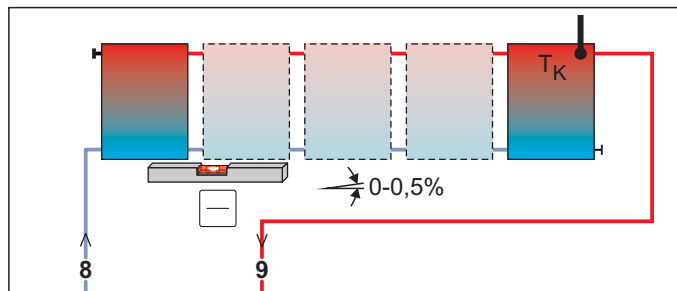
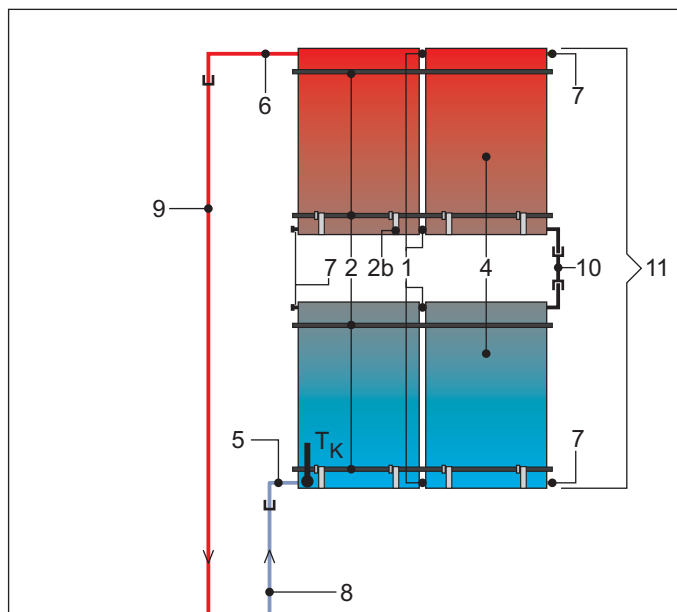
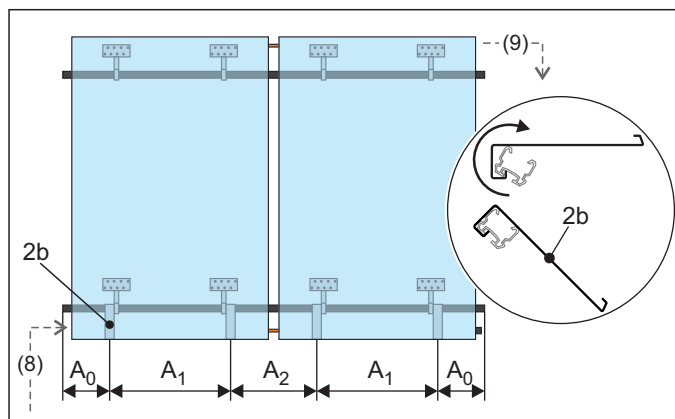

Fig. 4-1 Two-way connected solar panel array (recommended)
Fig. 4-3 Alternative solar panel arrangement
Fig. 4-5 Step 1: Alignment of the securing clips
As an alternative to the parallel circuits of the solar panels described in these instructions, a maximum of three rows of solar panels can also be installed above one another if required. Solar panels or solar panel arrays installed in this way must be connected in series (fig. 4-3).
Tab. 4-1 Legend for fig. 4-1 to fig. 4-3 and fig. 4-5
- The inlet connection pipe must be connected to the solar panel at the top and the return flow connection pipe at the bottom (see fig. 4-1 to fig. 4-3 and fig. 4-5).